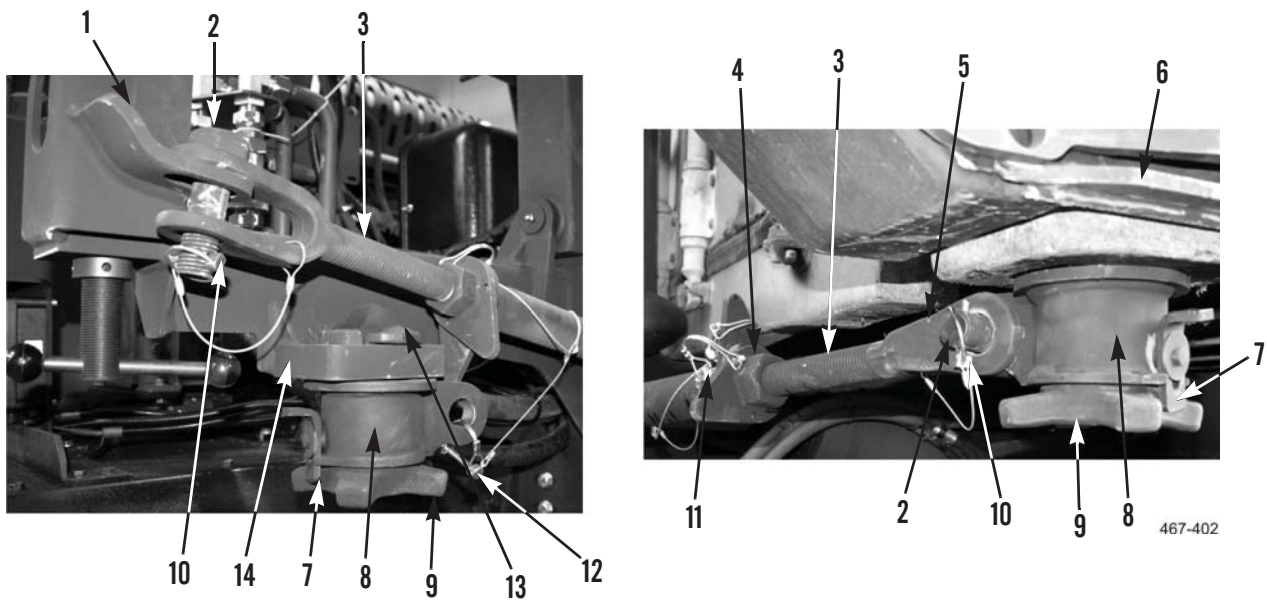

Figure 17. Secure Transport Locks.
1. Remove clip (Figure 17, Item 12) from transport lock (Figure 17, Item 8).
2. At stowage assembly, lift handwheel lock (Figure 17, Item 7) and loosen handwheel (Figure 17, Item 9) to full extension.
3. Rotate anvil (Figure 17, Item 13) and remove transport lock (Figure 17, Item 8) from stowage bracket (Figure 17, Item 14).
4. Push transport lock (Figure 17, Item 8) upward into container corner casting (Figure 17, Item 6). Verify that anvil (Figure 17, Item 13) is inserted into container corner casting.
5. Continue to support transport lock handwheel (Figure 17, Item 9) and turn it 90° clockwise.
6. Lower transport lock handwheel (Figure 17, Item 9) and check that anvil shoulders are now resting on inner surface of container corner casting (Figure 17, Item 6).
7. Maintaining downward pressure on handwheel (Figure 17, Item 9), tighten handwheel until transport lock (Figure 17, Item 8) is snug against container but loose enough to adjust position.
8. Remove clip (Figure 17, Item 10), bolt (Figure 17, Item 2), and transport lock arm (Figure 17, Item 3) from stowage bracket (Figure 17, Item 1).
9. If necessary, remove clip pin (Figure 17, Item 11) from adjustment lever (Figure 17, Item 4), loosen adjustment lever and adjust length of transport lock arm until clevis (Figure 17, Item 5) aligns with transport lock (Figure 17, Item 8).
10. Install clevis (Figure 17, Item 5), bolt (Figure 17, Item 2), and clip (Figure 17, Item 10) on transport lock (Figure 17, Item 8).
11. If loosened, tighten adjustment lever (Figure 17, Item 4) and install clip pin (Figure 17, Item 11).
12. Lift handwheel lock (Figure 17, Item 7) and tighten handwheel (Figure 17, Item 9) until transport lock (Figure 17, Item 8) is secure against container corner casting (Figure 17, Item 6).
13. Ensuring it passes between two finger grips on handwheel (Figure 17, Item 9), lower handwheel lock (Figure 17, Item 7).